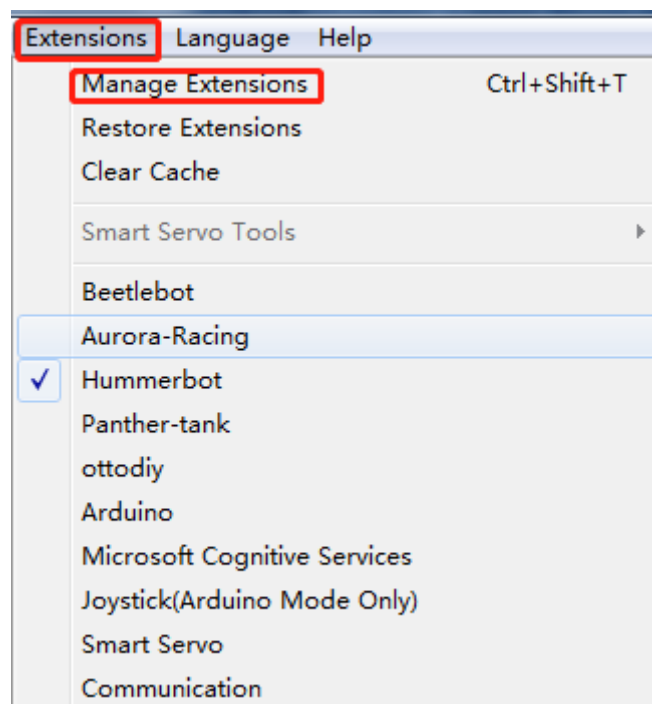

Figure 2-1
- 2) Open the mBlock software and click "Extension → Extension Manager", as shown in Figure 2-1;